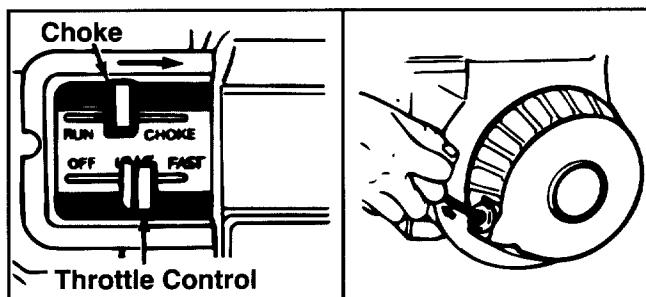

FIGURE 7.— Model 645 Shown
1. Place the throttle control lever in FAST position. See figure 7.
1. Move throttle control lever to OFF position. See figure 7.